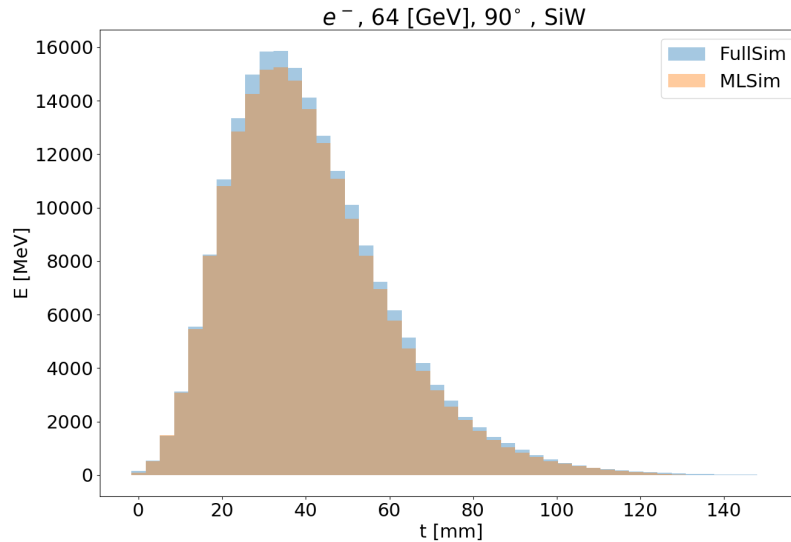
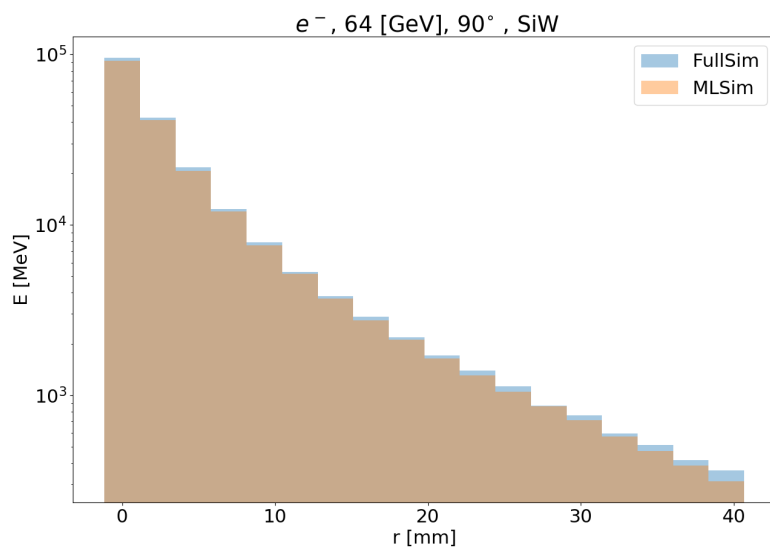
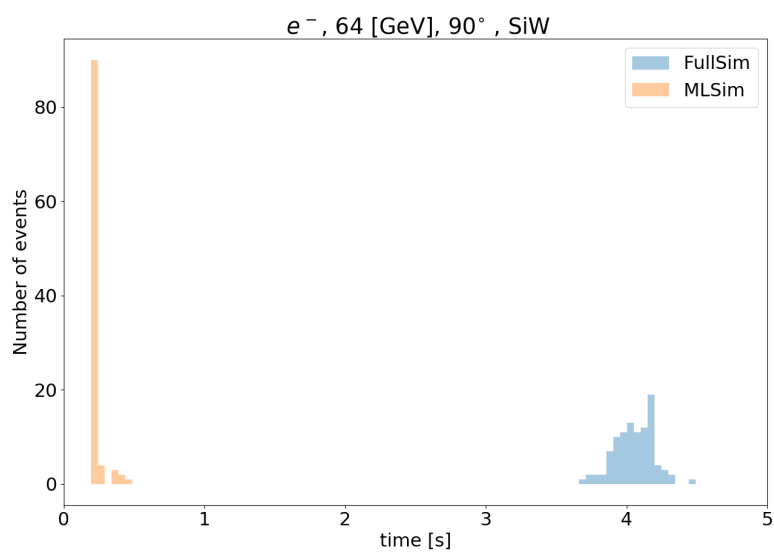

Fig. 11.3: Longitudinal profile for 64 GeV electrons.
Fig. 11.4: Transverse profile for 64 GeV electrons.
Fig. 11.5: Simulation time for 64 GeV electrons.
The three figures below show the validation plots comparing the full simulation to the (ML) fast simulation after using the inference with ONNX. The plots show the longitudinal (Fig. 11.3), transverse profiles (Fig. 11.4) and simulation time (Fig. 11.5) for 64 GeV particles with an angle of 90 degrees.